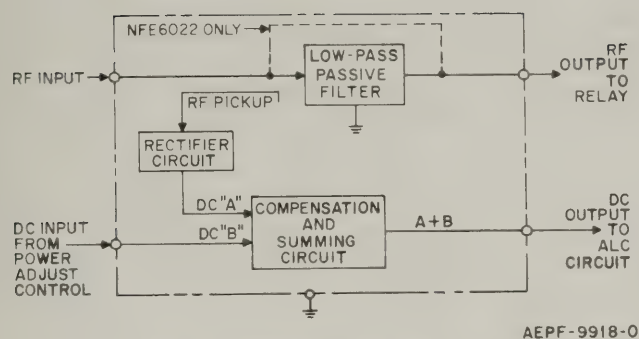

Figure 31. U107; Filter and Detector Module
Referring to Figure 31, the module contains an rf rectifier, and a dc compensation and summing circuit. A sample of the rf energy at the filter input is coupled and rectified, producing a dc voltage (A) that is proportional to the carrier signal amplitude. The rectified dc voltage is applied to a summing circuit. A positive dc voltage (B) from the power adjust control is also applied to the summing circuit. The circuit produces an output that is a function of voltages $A + B$. Since the output voltage depends on the power setting and the rf output level, it is applied to the automatic level control (ALC) module where it develops a control signal to maintain output carrier level at the desired amplitude.